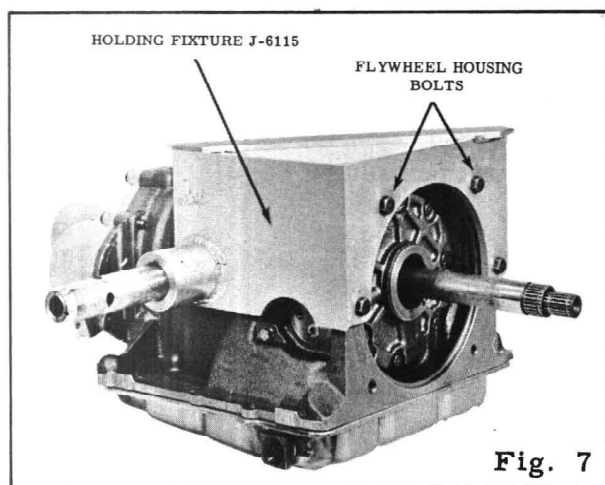

Fig. 7
- ☒ Bolt the transmission holding fixture to the transmission using four flywheel housing attaching bolts. (Fig. 7) Position the transmission and holding fixture on the bench with the pan side up.